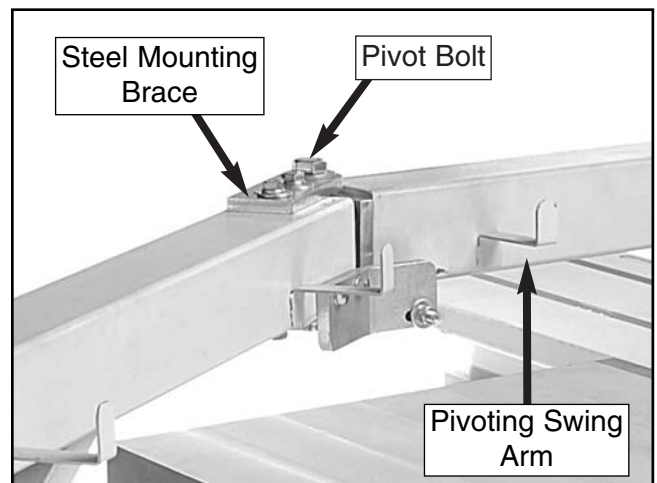

Figure 33. Pivot bolt.
5. Loosen the pivot bolt (**Figure 33**) at the end of the swing arm to position the steel mounting brace over the end of the upper support arm.